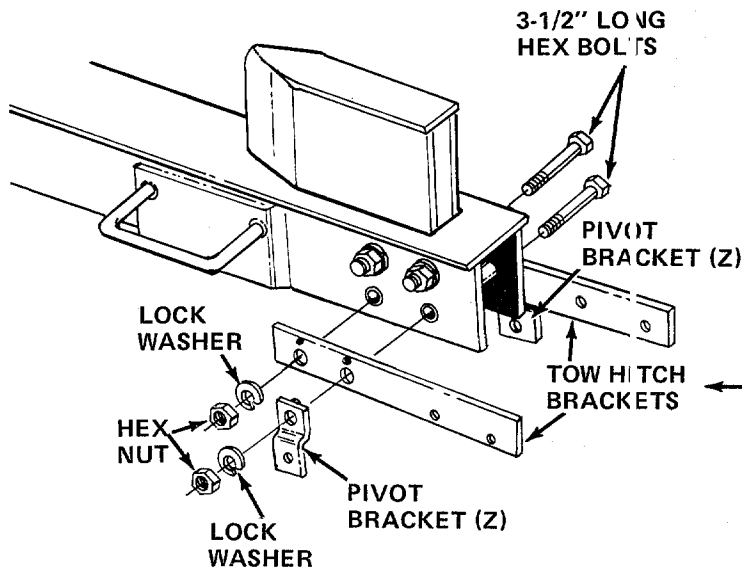

FIGURE 4
1. Remove the two bottom bolts, lock washers and hex nuts from the beam and wedge. See figure 4.
3. Place one pivot bracket (Z) on each side of the two hitch brackets, lining up the holes in the hitch bracket with the holes toward the end of the beam. The pivot brackets must be assembled with the bend to the outside as shown in figure 4. Secure with the other hex bolt, lock washer and hex nut removed in step 1.